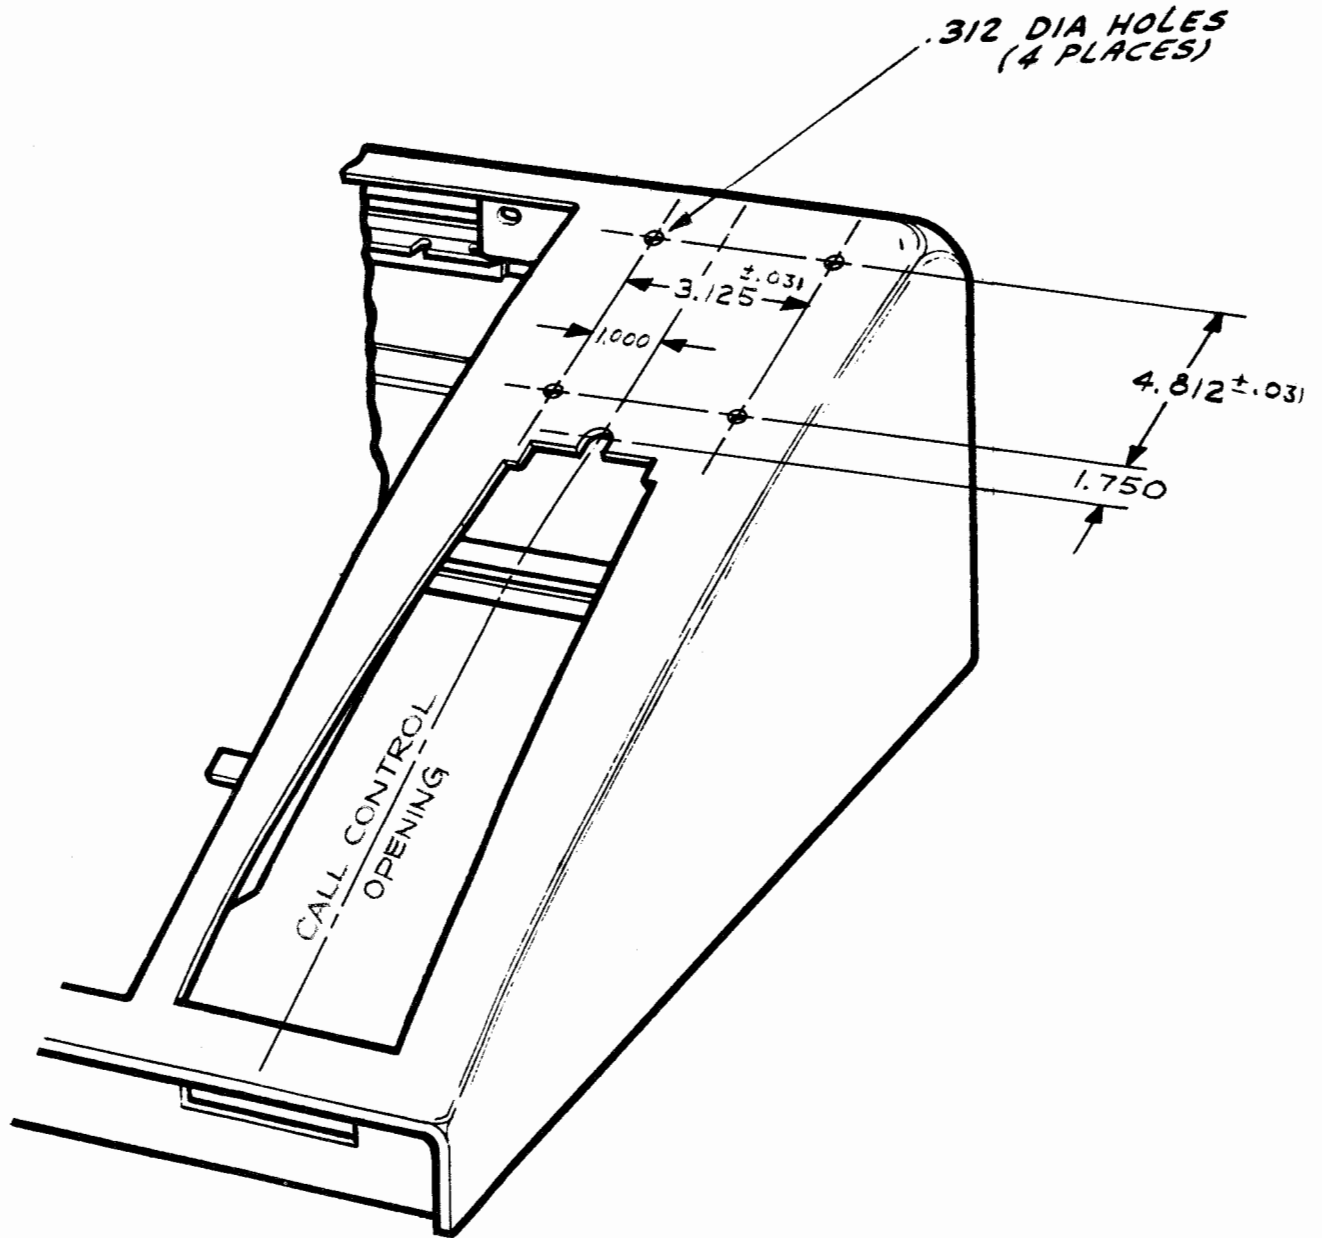

FIGURE 1.
b. Four holes are provided in late design lower covers for mounting the kit; however, with early design covers the necessary holes must be drilled in accordance with Figure 1.
2. INSTALLATION (See Figures 1, 2, and 3)
a. On early design covers drill the necessary mounting holes in accordance with Figure 1 after removing the cover in accordance with standard practice.